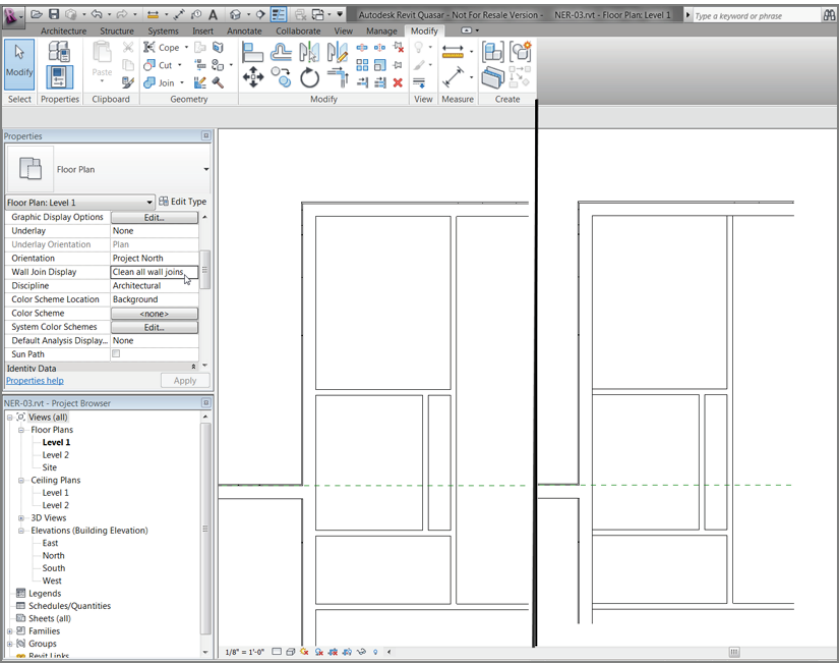

FIGURE 2.56: Choosing a Wall Join Display option in the view's properties
1. Zoom in on the northwest corner of the east addition, as shown in Figure 2.56.
4. Observe the difference between the wall joins, as shown in Figure 2.56.